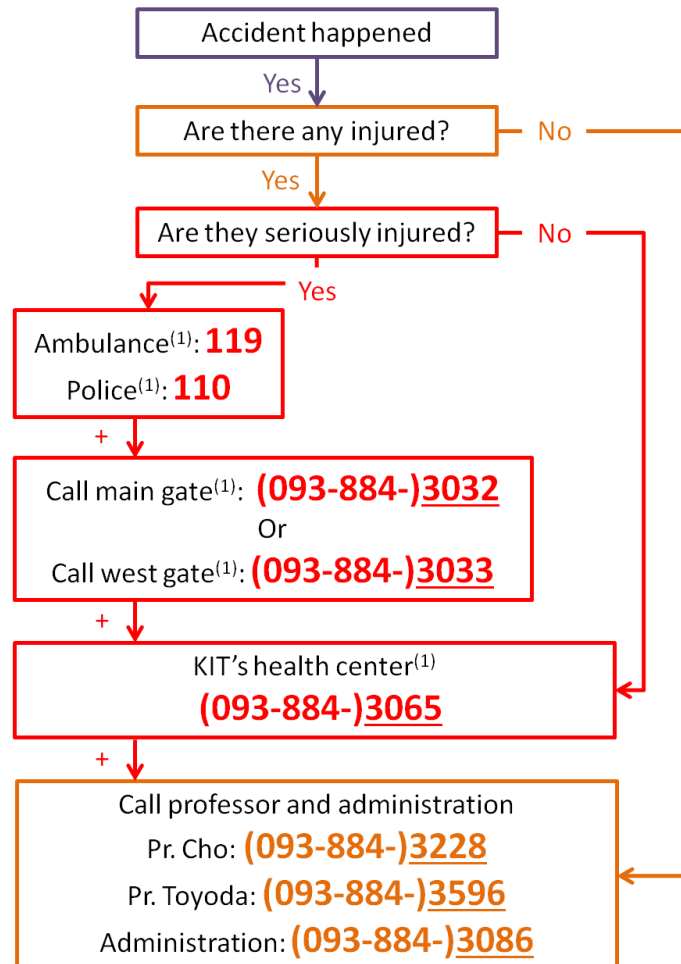

Figure 27. Emergency procedure flow chart
12	Install the satellite in the chamber (see Fig. 27)
8. In the case of a natural disaster or a serious accident, take emergency measures and prevent secondary accidents immediately. Then communicate via the following emergency communication links shown below in Figure 27.